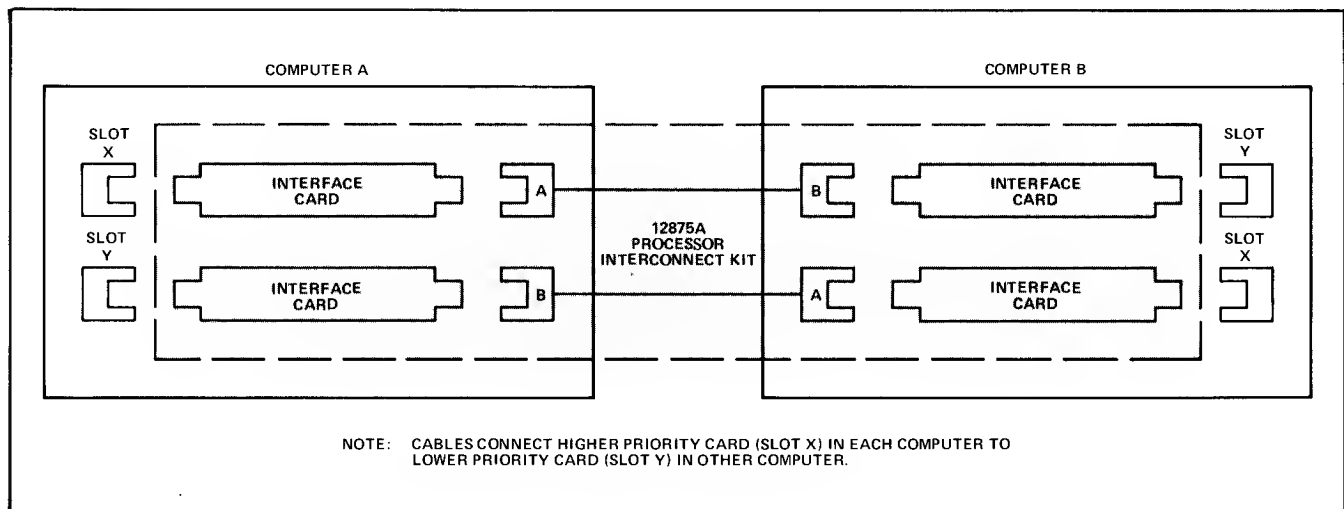

Figure 2-1. Processor Interconnect Kit Installation
d. Interconnect the two computers using the two cables included in kit as shown in figure 2-1. Connect higher priority card in each computer to lower priority card in other computer. Slots X and Y in figure 2-1 refer to higher and lower priority slots, respectively. Actual slot numbers may be different in each computer.
2-17. In the case of an input operation from a teleprinter, program instructions must cause computer A (see figure 2-1) to input data from the teleprinter terminal. Further instructions must cause the data to be output to the lower priority microcircuit interface card in computer A. (The processor interconnect kit includes two microcircuit interface cards for each computer.) When data is output from the lower priority card in computer A, the Encode signal from that card (a result of an STC,C program